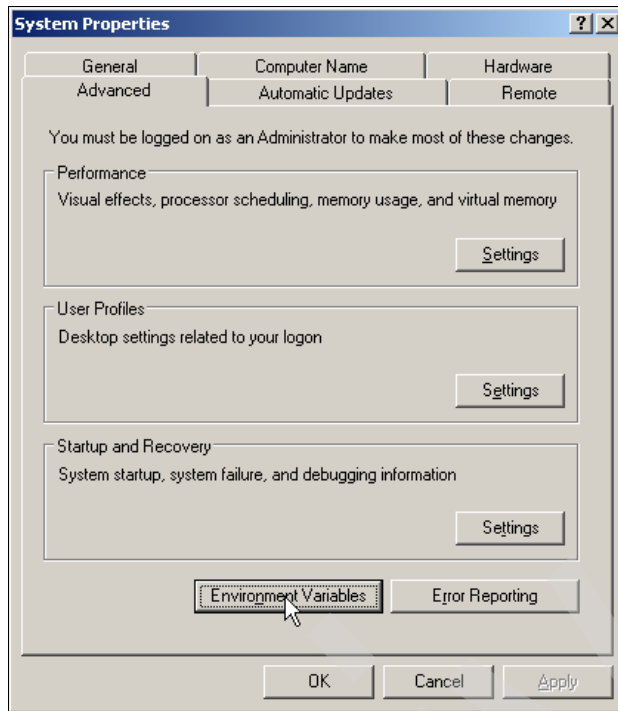

Figure 3-3 Windows System Properties
1. Figure 3-3 on page 69 shows the Windows System Properties panel. Click **Environment Variables** to proceed to the next step.